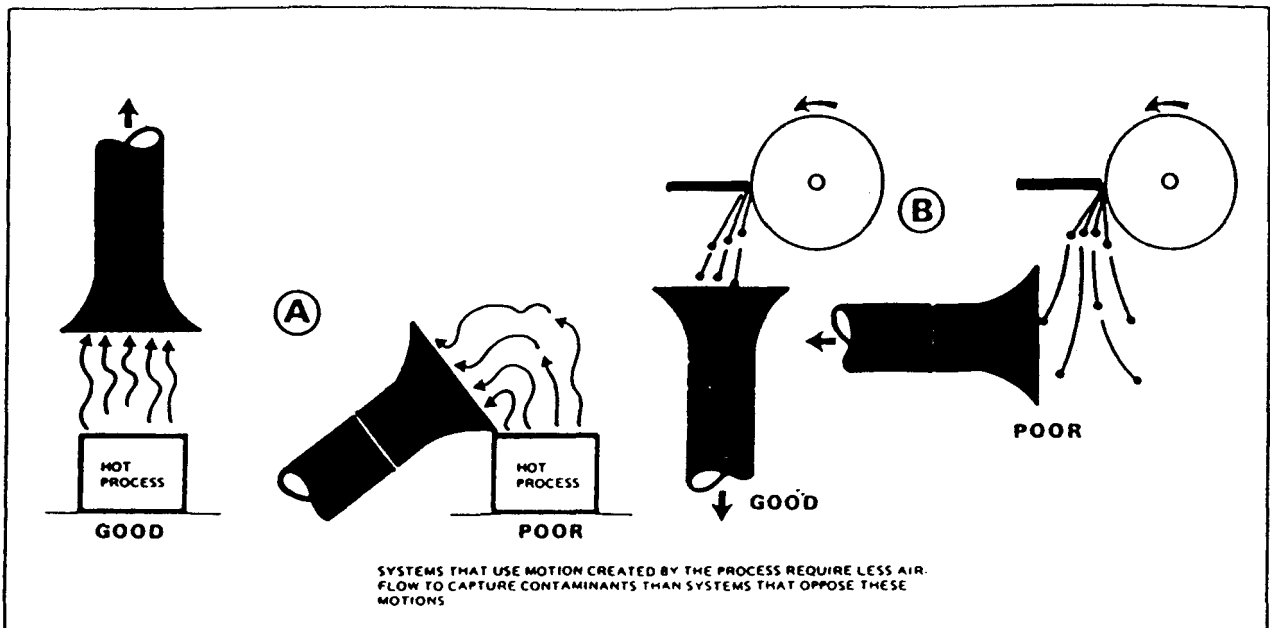

FIG. 6 - UTILIZING PROCESS MOTION
- Spot heating, cooling, or ventilation equipment near area. See Fig. 6.